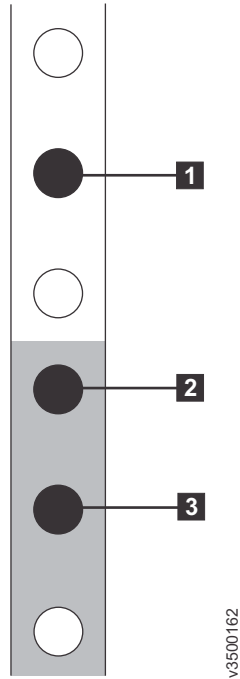

Figure 9. Hole locations in the front of the rack
3. Working at the front of the rack cabinet, identify the two standard rack units (2U) of space in the rack into which you want to install the support rails. Figure 9 on page 13 shows two rack units with the front mounting holes identified.